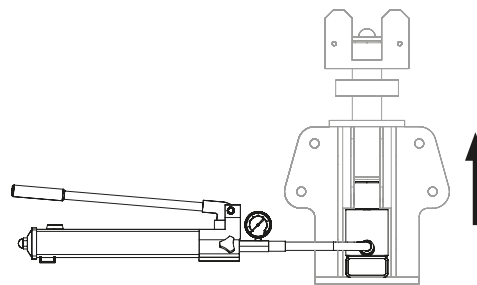

Fig. C2.02b
3. Pump up the hydraulic cylinder (**50.1**) to the required height (min. 50 mm). (Fig. C2.02b)